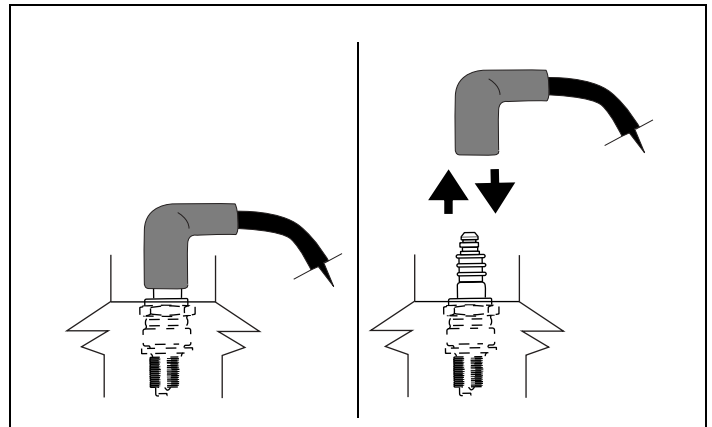

Figure 35. Disconnecting/Connecting Spark Plug
- Disconnect spark plug wire and keep it away from spark plug. See Figure 35.
11. Connect spark plug wire to spark plug before attempting to start engine. See Figure 35 on page 18. Afterward, continue reading instructions below.